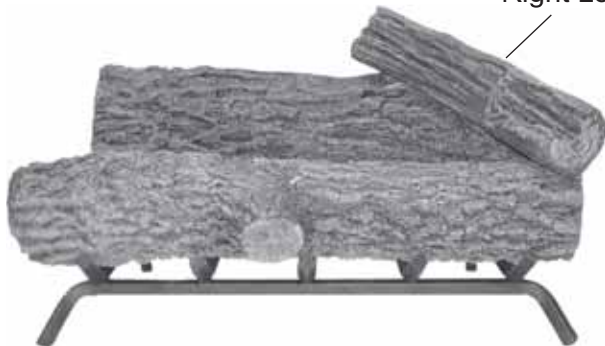

Figure 55 - Positioning Right Log (#3)
3. Position Right Log #3 on top right of Log #1 and Log #2. Make sure back of Log #3 fits in right groove in top of Log #2. *See Figure 55.*